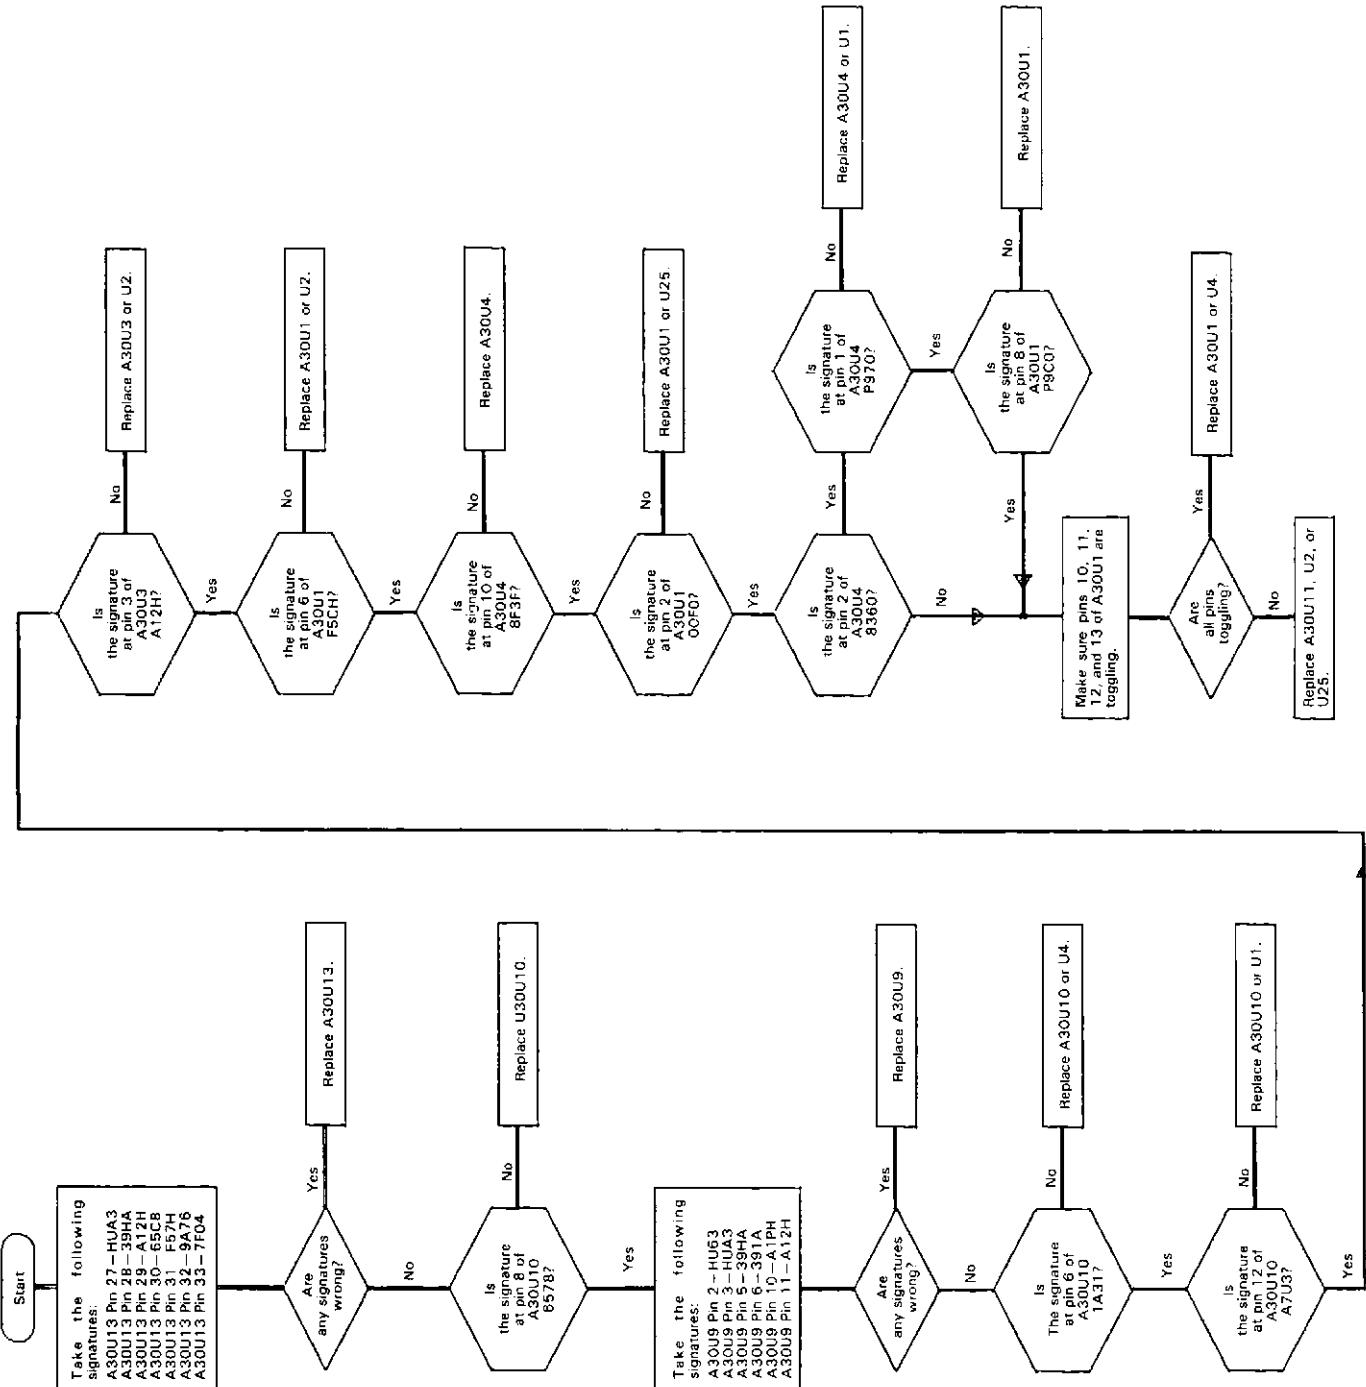

Figure 8-B-4. Inguard Signature Analysis Routines.
e. If the waveform is good, check for the waveforms shown in Figure 8-B-6A and B at A30TP1 and TP2, respectively. Make sure the waveforms are as shown in the figure.